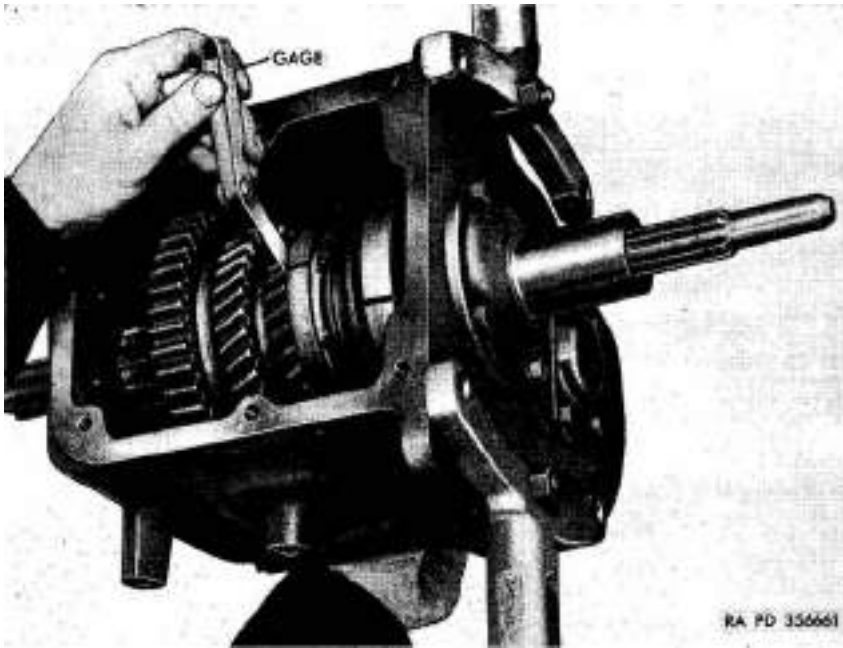

Figure 117. Checking end play of synchronizer assembly with thickness gage.
- (3) Measure space between synchronizer outer stop ring (L) and third speed gear (P) with two sets of thickness gages (fig. 117). Thickness gages must be placed simultaneously between the upper and lower surfaces of the synchronizer outer stop ring and third speed gear. The space must conform to the dimensions indicated in paragraph 344.
- (4) If clearance between synchronizer outer stop ring and third speed gear is not in conformance with specifications, remove input shaft (par. 110) and main shaft ball bearing (par. 111). Add or remove main shaft ball bearing shim (DD) as required. Install main shaft ball bearing, main shaft assembly, and input shaft assembly (*b* and *c* above).